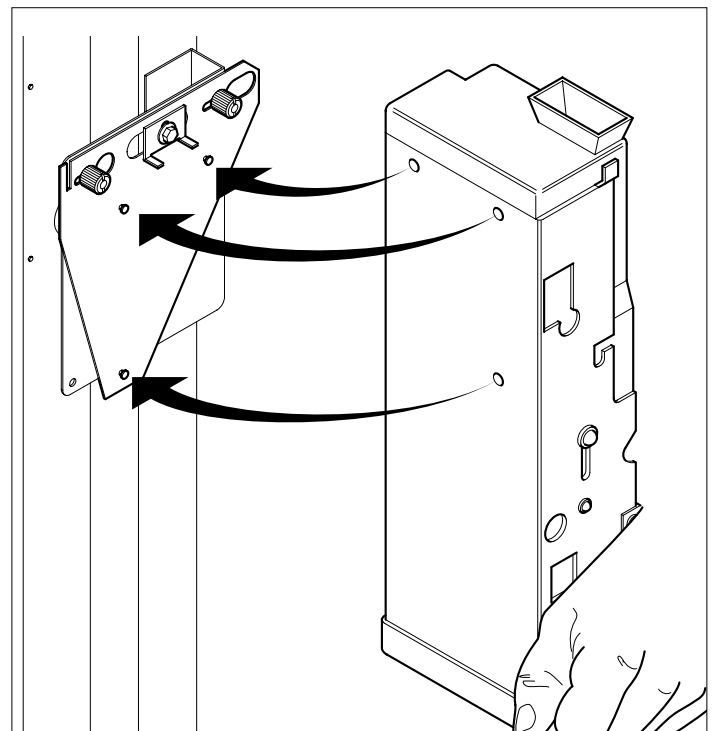

Fig. 6.13
- couple the automatic coin dispenser to the support bracket (Fig.6.13)